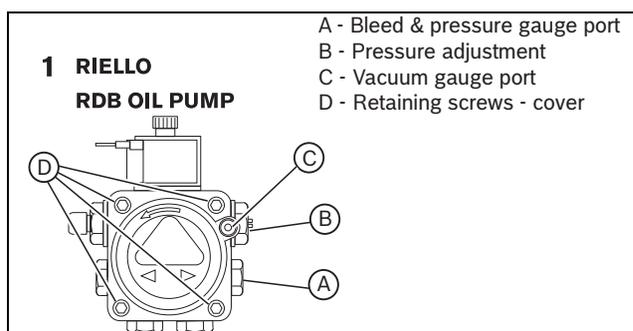
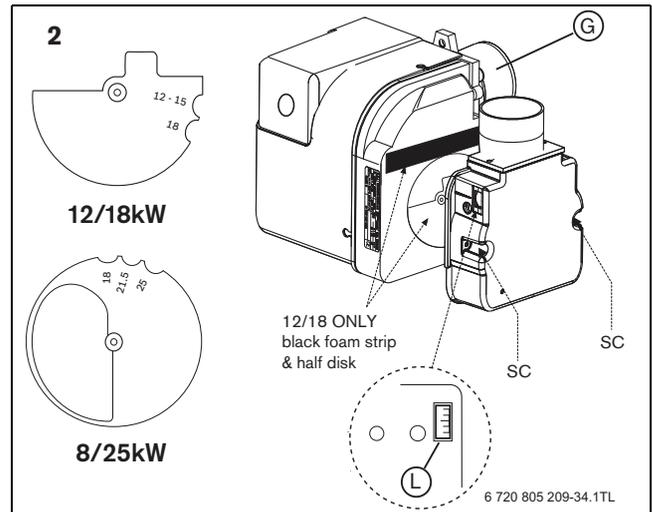

Fig. 54
Fig. 56
Adjust position of the air damper disc to suit the burner output (→ table 8 on page 36), located as shown in figure 56. Access is by loosening the two star screws (SC) to release the air inlet manifold.
- ▶ Adjust the air shutter [L] (see figure 56) and pump pressure [B] as shown in figure 54. The burner should ignite following a pre-ignition period of approximately 15 seconds.